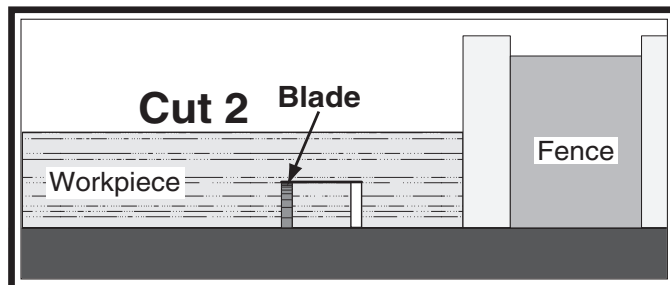

Figure 74. Second cut for a single-blade dado.
7. Repeat cutting operation on other side of dado, as shown in **Figure 74**.